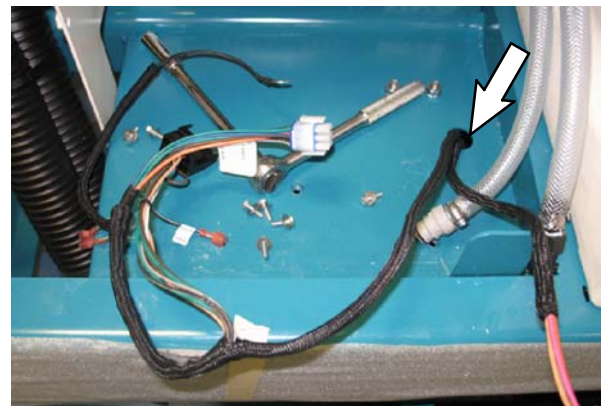

FIG. 9
11. Route the end of the *ec-H2O* harness with the diode through the hole in the frame of the machine and to the water valve attached to the scrub head. Refer to Fig. 9.